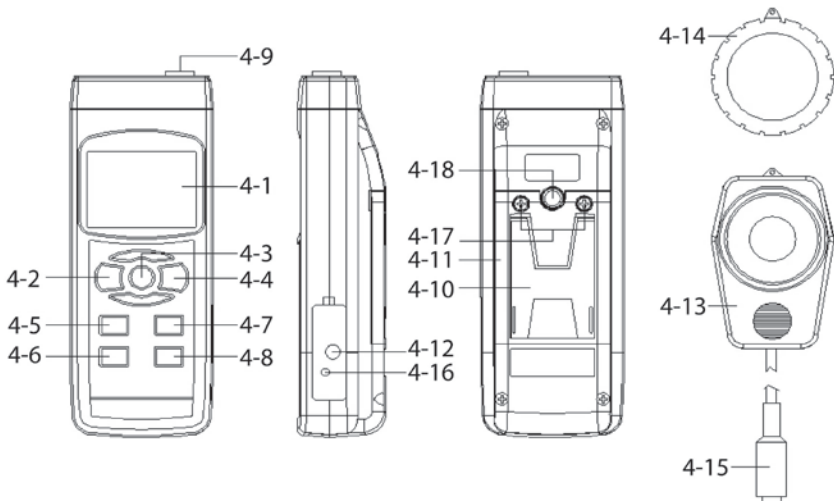

Fig. 1
1. Push the "Power Button" (4-2, Fig. 1) to power on the instrument. The meter will perform a short self-test before measurements can be taken.
2. Select the desired unit of measurement by pressing the "Lux/Fc Button" (4-5, Fig. 1). The display will indicate the selected unit of "Lux" or "Ft-cd".
3. Determine the lighting type (Tungsten, Fluorescent, Sodium or Mercury lamp) by pressing the "Light Source Select Button" (4-8, Fig. 1). For unknown light types we recommend you use Tungsten
4. Select the max range by using the "Range Button" (4-6, Fig. 1)
5. Position the "Light Sensor" (4-13, Fig. 1) directly under the light source.
- a. Cover the "Light Sensor" (4-13, Fig. 1) using the "Sensor Cover" (4-14, Fig. 1). **Do not** remove the "Sensor Cover".
- c. Pushing the "Zero Button" (4-7, Fig. 1) will zero out the LCD display.
- a. During measurements, press the "Hold Button" (4-3, Fig. 1). The data on the LCD display will be held and the "HOLD" symbol will be displayed.
- a. During a measurement press and hold the "Hold Button" (4-3, Fig. 1) for at least 3 seconds. The meter will now only display and hold the largest measured value along with the "Peak HOLD" indicator.
- b. To clear the peak value momentarily press the "Hold Button" (4-3, Fig. 1).
- c. To turn off the Peak Hold function, press and hold the "Hold Button" (4-3, Fig. 1) for at least 3 seconds.
- a. The data record function records the maximum and minimum readings. Press the "REC Button" (4-4, Fig. 1) to start the data record function.
- b. With the "REC" symbol on the display momentarily pressing the "REC Button" (4-4, Fig. 1) will toggle between Max and Min recording.
- c. To exit the memory record function, press and hold the "REC Button" (4-4, Fig. 1) for at least 3 seconds.
- d. Note: To delete the displayed value while recording, just press the "Hold Button" (4-3, Fig. 1) until the display clears the data leaving the "REC" symbol.
To disable this function, select the memory record function during a measurement by pressing the " REC. Button" (4-4, Fig. 1 ).
This instrument has RS232 PC serial interface via a 3.5 mm terminal (4-12, Fig. 1).
2. Open the "Battery Compartment" (4-11, Fig. 1) by first loosening the "Battery Cover Screws" (4-17, Fig. 1).
3. Replace the batteries with "good" batteries noting the correct polarity. Replace "Battery Compartment" (4-11, Fig. 1) and "Battery Cover Screws" (4-17, Fig. 1). Ensure the cover is securely fastened.